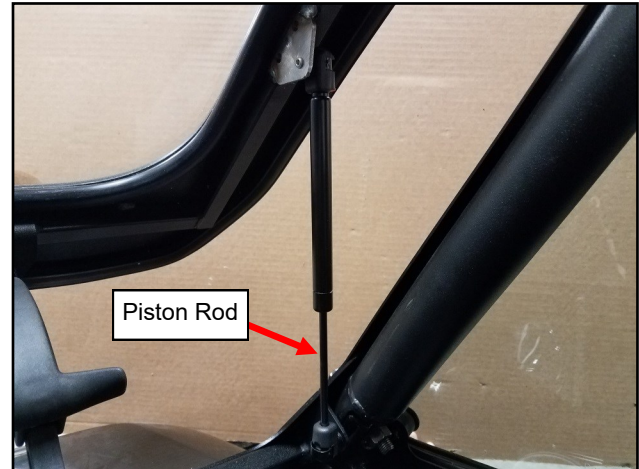

Fig. 10.2 (Windshield gas springs)
**10.2** For a polycarbonate windshield, skip to step 10.4. For a glass windshield, install the shorter gas springs onto the ball studs on the windshield frame. Per fig. 10.2, orient them so that the piston rod is pointing downwards.